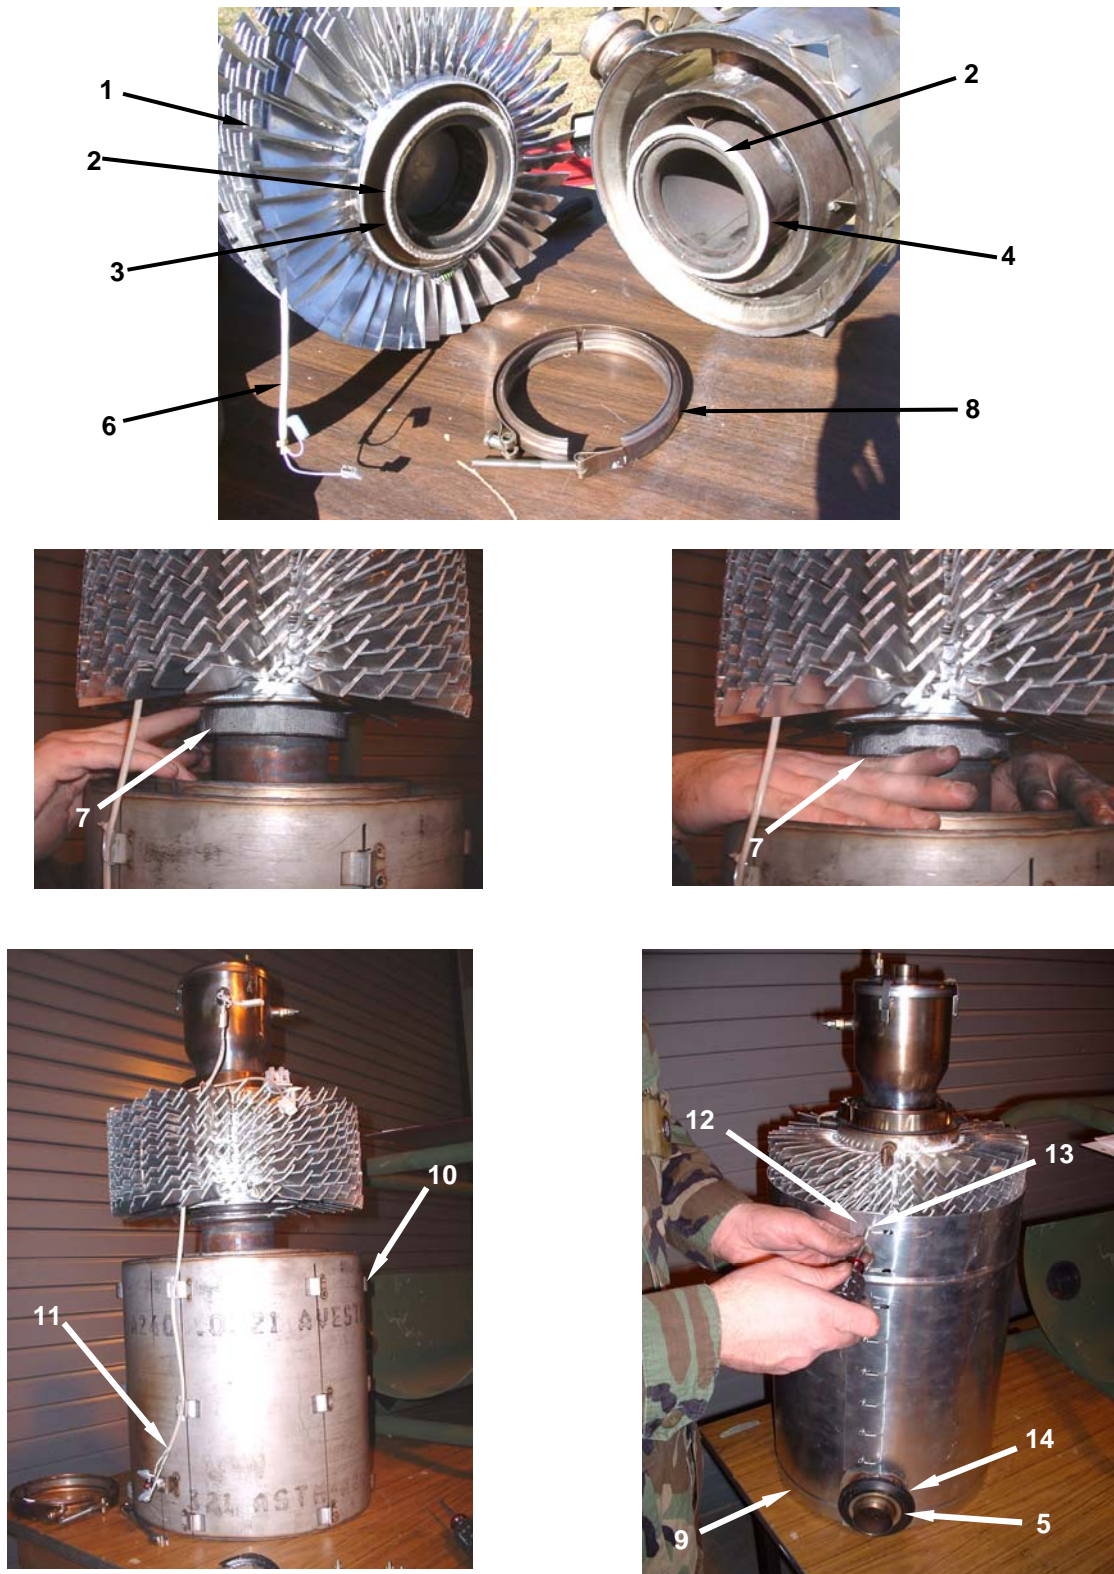

Figure 5. Install Heat Exchanger.
1. First, the thermoelectric generator (TEG) (**Figure 5, Item 1**) must be installed. Install fiberglass rope (**Figure 5, Item 2**) in TEG flange groove (**Figure 5, Item 3**) and heat exchanger flange (**Figure 5, Item 4**).
2. While positioning the combustion exhaust outlet (**Figure 5, Item 5**) of the heat exchanger at the 9 o'clock position, position the two input wires (**Figure 5, Item 6**) exiting the TEG at the 1 o'clock position. Align and mate the TEG flange (**Figure 5, Item 3**) and heat exchanger flange (**Figure 5, Item 4**).
3. Install new graphite ribbon tape (**Figure 5, Item 7**) around the outside of the TEG flange (**Figure 5, Item 3**) and heater exchanger flange (**Figure 5, Item 4**). Be sure to overlap the tape by approximately 2 to 3 inches. Roll tape over edges of both flanges to ensure a good seal.
4. Install flange clamp (**Figure 5, Item 8**) over TEG flange (**Figure 5, Item 3**) and heater exchanger flange (**Figure 5, Item 4**) taking care to position the top of the clamp so that it is aligned just to the left of the two input wires (**Figure 5, Item 6**) exiting the TEG. Tighten the clamp securely.
5. Align cutouts in wrap cover (**Figure 5, Item 9**) with the combustion exhaust outlet (**Figure 5, Item 5**) and position around the heat exchanger (**Figure 5, Item 10**). Ensure that the wrap cover is positioned so that the thermostat reset switch, when installed, can be installed through the hole in the wrap cover and mounted to the bracket in the lower housing assembly. Also, ensure that the two wires and connectors (**Figure 5, Item 11**) tied to outside of the heat exchanger hang out of the hole in the wrap cover.
6. While holding the wrap cover (**Figure 5, Item 9**) securely in position, install sheet metal screws (**Figure 5, Item 12**) and washers (**Figure 5, Item 13**). Tighten all screws securely.
7. Install exhaust grommet (**Figure 5, Item 14**) over combustion exhaust outlet (**Figure 5, Item 5**).